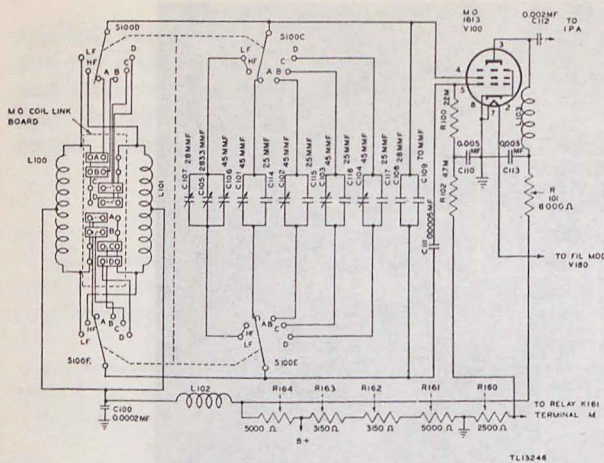

Figure 52. Radio Transmitter BC-653-A, functional diagram of master oscillator.
Figure 52 is the schematic diagram of the master-oscillator (m-o) circuit, complete with the link connections to the m-o coils. This circuit uses an electron-coupled Hartley oscillator in which the screen grid of the tube is used as the oscillator plate. The output circuit (plate) of the electron-coupled oscillator is untuned, eliminating a tuning adjustment and improving oscillator stability. Two coils L100 and L101 are used in the tank circuit to cover the two frequency ranges. Coil L100
a. Coil L100 is connected through the A links and switch sections S100D and S100F to switch sections S100C and S100E, respectively. Capacitors C101 and C114, connected in parallel, are switched into the circuit through switch sections S100C and S100E, as tuning capacitors for coil L100. Capacitor C109 is a fixed tuning capacitor which is connected in the circuit regardless of the position of the BAND CHANGE switch. Capacitor C108 is a temperature-compensated capacitor which, connected in parallel with capacitor C109, aids in maintaining stabilization of the tuned circuit because drift in frequency is due to change in temperature. The upper side of the tuned circuit is connected to the screen grid (pin 4) of m-o tube V100. The screen, in this case, is acting as oscillator plate. The lower side of the tuned circuit is connected through blocking capacitor C111 to the grid (pin 5) of m-o tube V100. Plate voltage to the circuit is applied to the center tap of coils L100 and L101 through choke L102 and voltage-regulator resistor R164. Two voltage-regulator tubes V160 and V161 (fig. 87) insure regulated voltage to further prevent frequency drift. Capacitor C100 is a bypass to keep r-f energy out of the high-voltage supply. Resistors R100 and R102 combine to make up the grid resistor and to supply grid bias to the tube. Resistor R160 supplies a high negative bias to prevent conduction in the tube and to prevent the m-o circuit from operating while receiving. During transmission, resistor R160 is shorted out of the circuit by relay K161 (terminal M to ground), thus removing the high bias and allowing the circuit to function. Capacitors C110 (fig. 52) and C171 (fig. 87) are grid bypass capacitors which shunt r-f energy to ground.
b. The plate (pin 3) of m-o tube V100 receives its voltage through r-f choke L103 and decoupling resistor R101. Resistor R164 is a starting resistor for the voltage-regulator tubes, and aids in applying a constant voltage regardless of variations in the vehicle generator voltage. Plate bypass capacitor C113 and choke L103 combine to form an r-f filter to keep r-f energy out of the high-voltage supply. Resistors R163, R162, R161, and R160 (fig. 52) and R176 and R177 (fig. 87) combine to make up a voltage-divider network across the 500-volt supply.